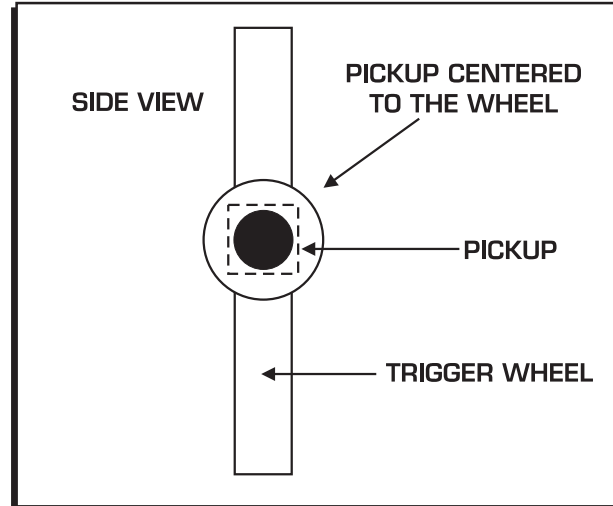

Figure 2 Pickup Centered on the Trigger Wheel.
4. The pickup should be centered to the edge of the crank trigger wheel (Figure 2). If not, it may be necessary to add or delete shims to the pickup bracket to achieve the proper position.